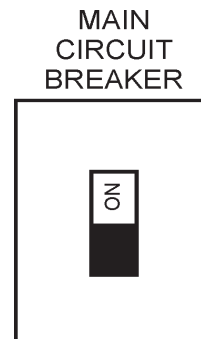

Figure 29. Main, GFCI, and Aux. Circuit Breakers (ON)
7. Place the **main** (Figure 29) circuit breakers on the control panel in the **ON** position.